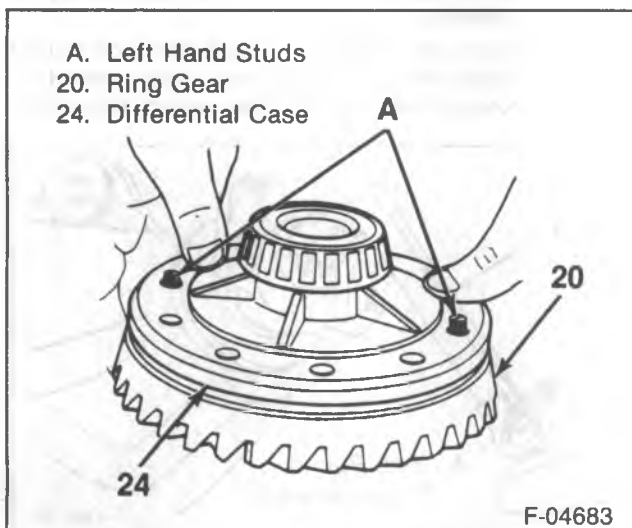

Figure 11—Aligning the Ring Gear Studs
3. Pinion gears (28) to the differential without the thrust washers (27).
4. Pinion thrust washers (27).
7. Ring gear (20) to the differential case (24) (figure 11).
8. New ring gear bolts (25).